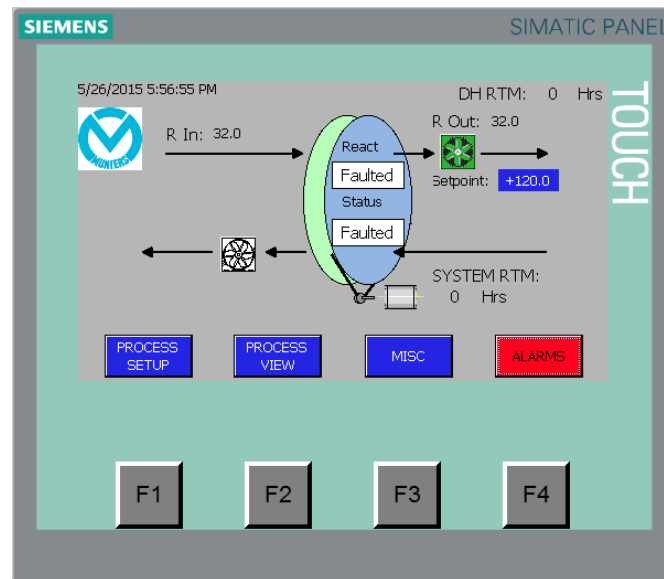

Figure 7-1
1. If the unit detects a fault condition, the ALARMS button on the display will blink red (See Figure 7-1) and the Fault Light on the control panel will light.